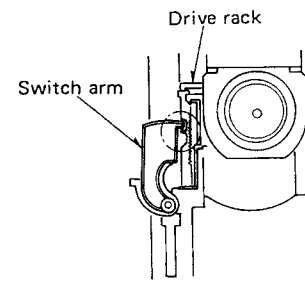

Fig. 13
6. Before fitting the disc holder, make sure that the switch arm end is on the groove side of drive rack top. (See Fig. 13.)
2. Remove the 6 setscrews [Fig. 13 : 29 ~ 34] on the right and left side of loading guide holder. Then the loading guide can be removed.
3. When the drive rack is fitted, the switch arm end should be on the groove side of drive rack top. (See Fig. 13.)